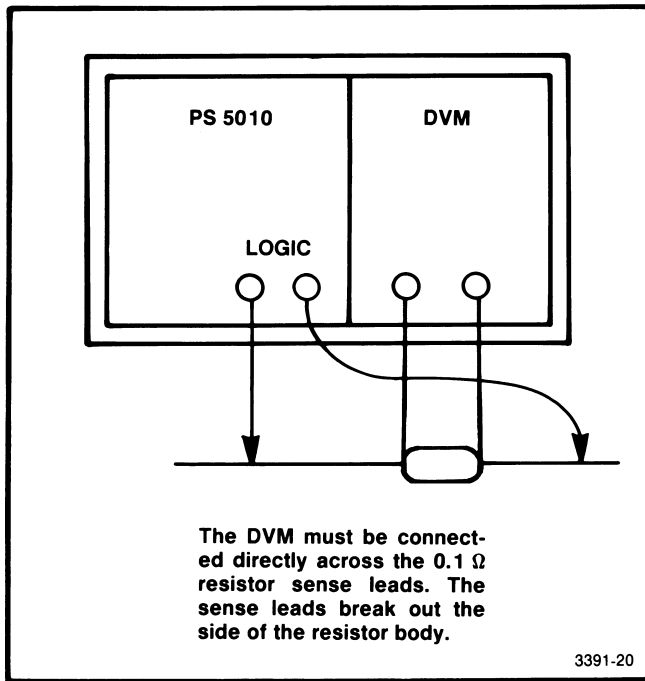

Fig. 5-7. Test setup for Max I Adj., step 2.
- b. Connect the PS 5010, dvm and 0.1  $\Omega$  resistor as shown in Fig. 5-7.